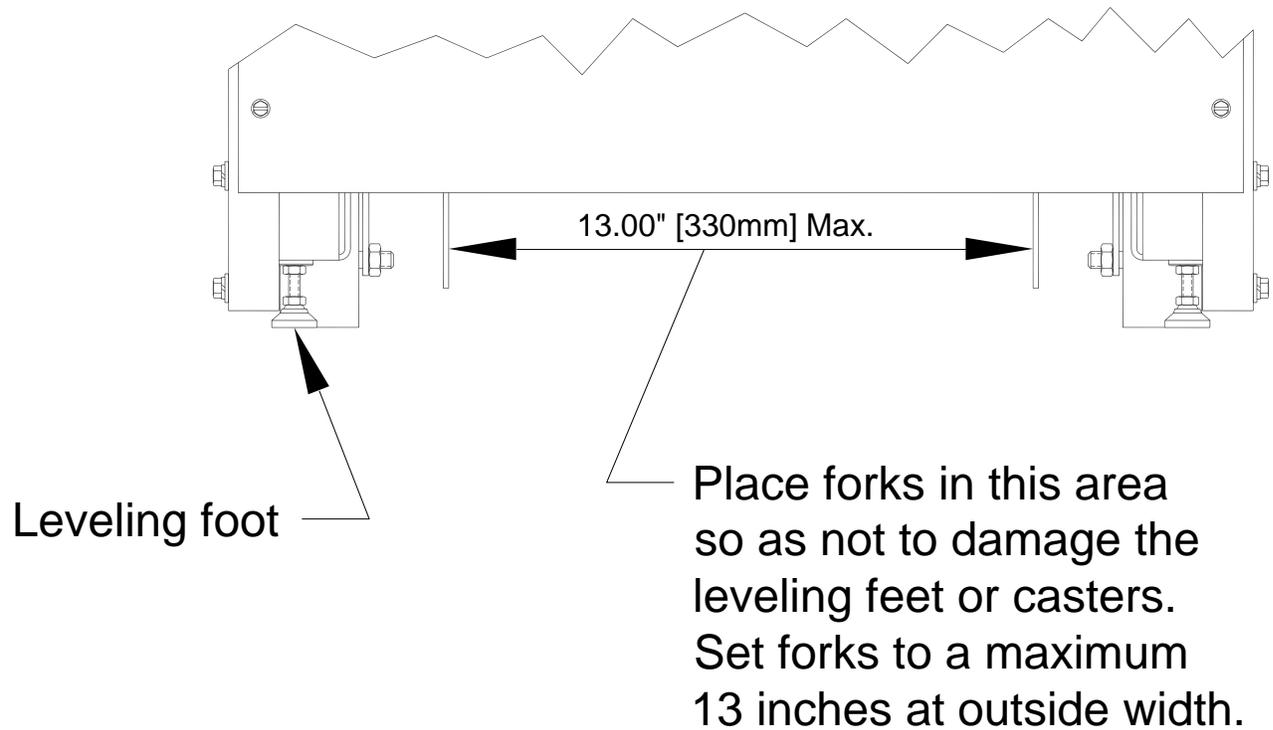

Figure 4 - Lifting fork area
5. Ensure that the four (4) leveling feet are raised so that they will not touch the floor when the cabinet is placed on the floor.
6. Lift the cabinet with a forklift from the rear of the unit, one to two inches (1"-2" [2.5-5cm]) above the pallet (see figure 4).